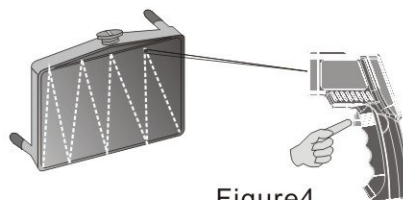

Figure4
- 5>.Locating a hot spot: To find a hot spot aim the thermometer outside the area of interest, then while still holding the trigger, scan across with up and down motions until you locate the hot spot. As shown in figure 4: